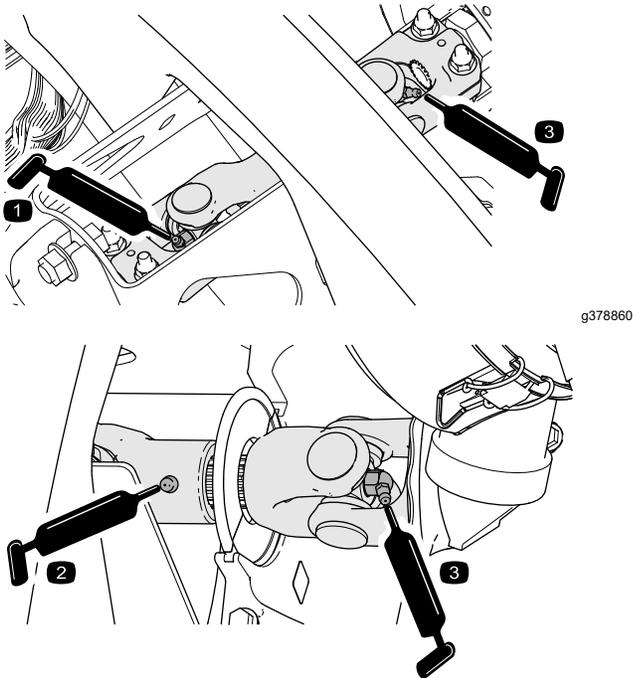

Figure 70
- Pump driveshaft U-joint (3) (Figure 70)